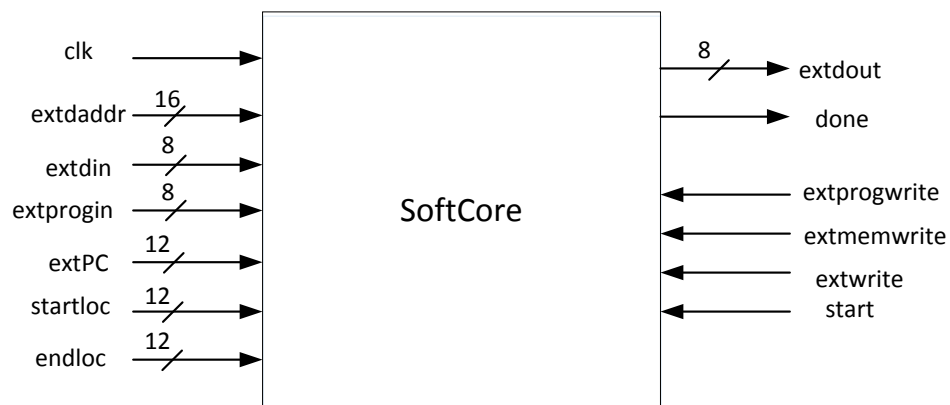

Figure 1 – External Interface for SoftCore Microprocessor
The SoftCore processor contains three types of memory: Program (RAM), Data (RAM), and Table (ROM) (Future upgrades could easily permit Table RAM). The program and data memories are separate instantiations. The program memory is byte addressable and contains up to 2^{12} (4096) bytes, where 2^8 (256) bytes is the default instantiation. The program memory can only be written by an external interface; the microprocessor cannot alter the program. The data memory is byte addressable and contains up to 2^{16} (65536) bytes, where 2^8 bytes is the default instantiation. The data memory can be written by either the microprocessor or an external interface, and can always be read on both internal and external ports. The microprocessor contains up to four tables of 256 bytes each for a total of 1024 bytes, and are optionally instantiated depending on the application. The Table ROMs can be read by the processor but cannot be written by internal or external interfaces. A top-level interface for SoftCore is shown in Figure 1.